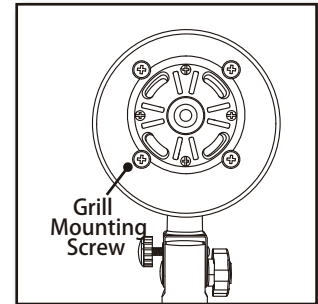

Figure 7
9. Remove the four rear grill mounting screws from the motor housing. Figure 7.